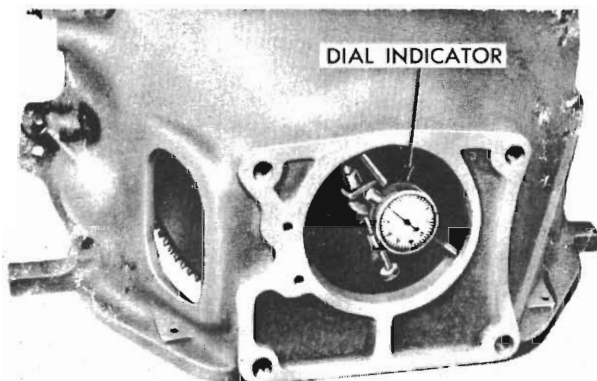

Fig. 12 – Checking clutch housing bore (Tool E6C10)
(1) Mount Tool E6C10 with dial indicator on flywheel as shown in Fig. 12.
(2) With flywheel turning tool, crank engine whilst noting dial indicator needle deflection.
removing clutch housing (if necessary) and turning dowels with a screwdriver to shift the housing and bring bore within limits (refer Fig. 12).